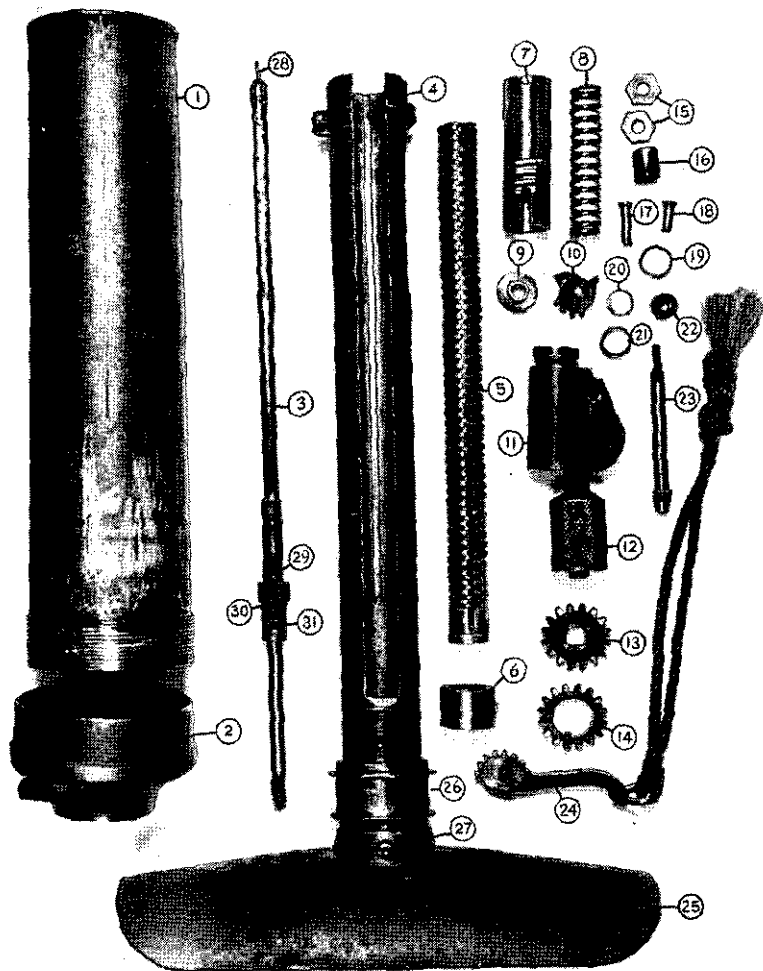

Figure 55.—Disassembled parts of Model 89 (1929) 50-mm grenade discharger.
(2) *Stripping.*—The following procedure will permit a complete disassembly of the weapon (see fig. 55):
(Key to fig. 55)